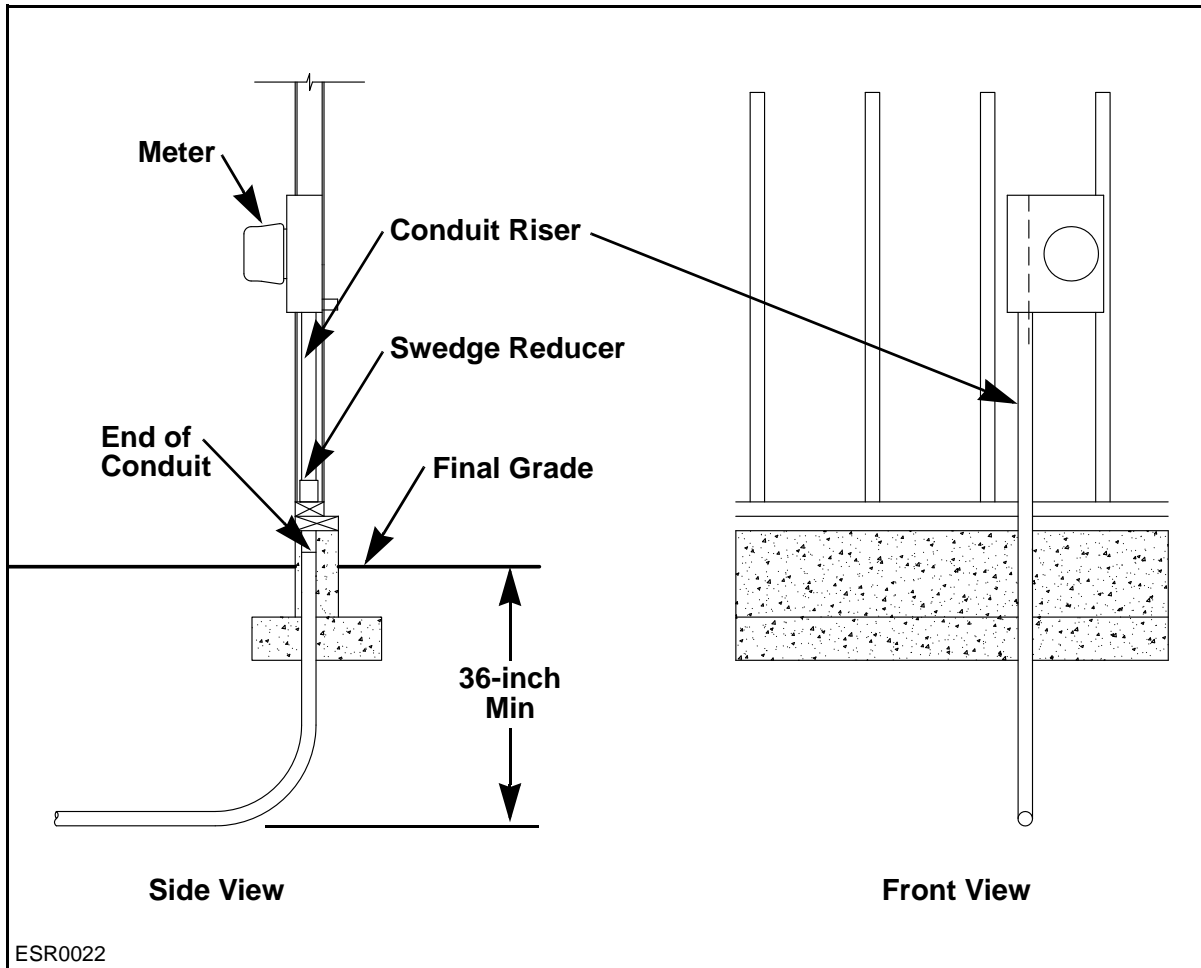

Figure 7-8: Flush-Mount Installation
See **Figure 7-8**.
- No bends are allowed in the conduit riser between the meter socket and the underground sweep. See **Figure 7-8** for an installation with conduit in the foundation and footing.